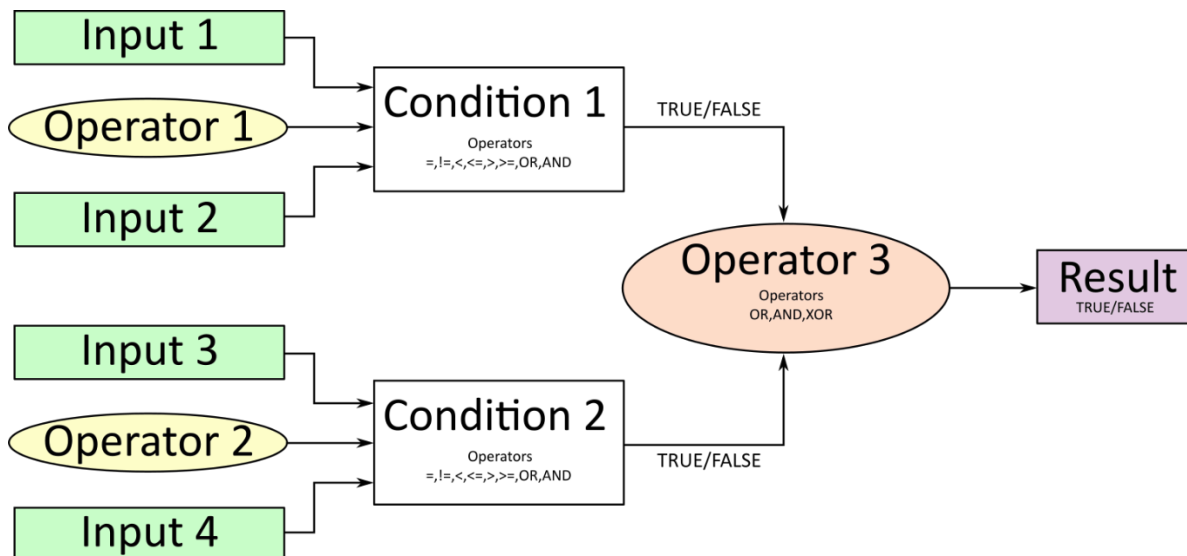

Figure 14 - Conditional Block Diagram
The Conditional Block compares up to four different input sources with different logical or relational operators. The result of each block can therefore only be **true** (1) or **false** (0). Figure 14 demonstrates the connections between all parameters.